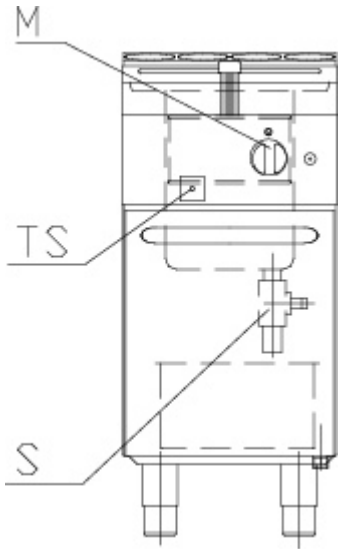

Fig.1 - Abb. 1
Before enabling the safety thermostat **TS (fig. 1) again**, eliminate the reasons provoking the overheating: examine the functioning of the operating thermostat, the oil level, etc... Then carry out the following operations:
ATTENTION ! Never switch on the fryer when its basins have no oil. When using cakes of fat, first of all melt them adjusting the temperature to the MINIMUM (turn the knob M of the fig. 1 to 1).
7.3 Use of the fryer (fig. 1)
7.4 Lighting the burners (Fig. 1)
7.5 Extinction of burners (fig. 1)
- Switch off the pilot burner turning the knob **M** to the position and pressing the button **S** (fig. 1).
- The oil drain cock **S** (fig. 1) - one cock per basin - is installed inside the compartment under the cooking basins, in a safe position so that it cannot accidentally be opened during the operation.